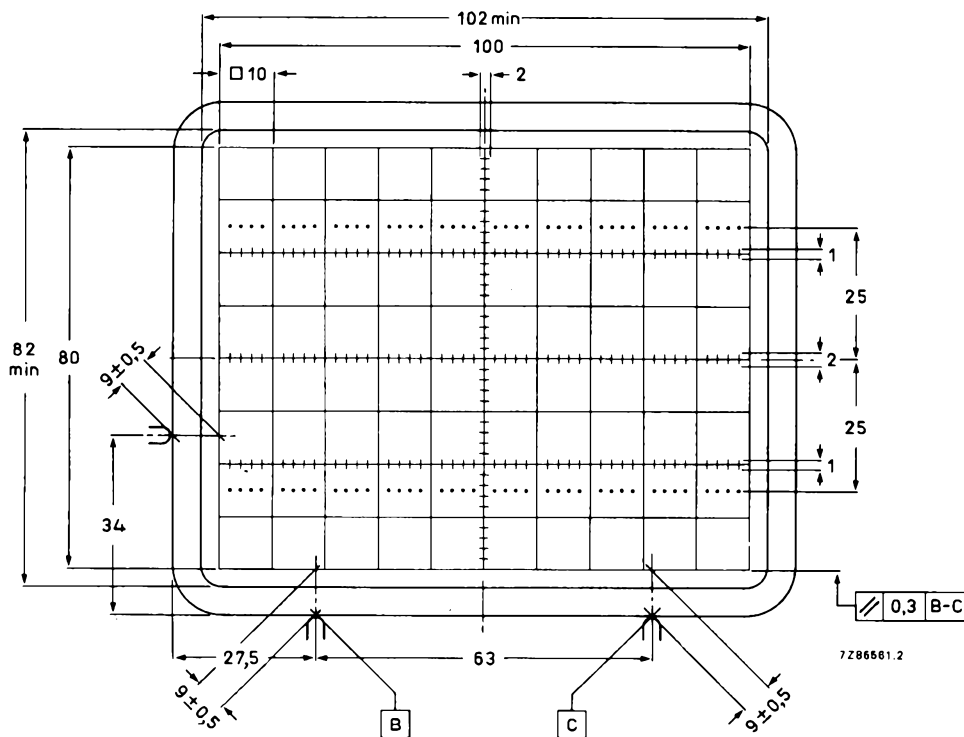

Fig. 5 Front view of tube with internal graticule, type 93. The faceplate reference points are used for aligning the graticule with the faceplate.
4. Reference points on faceplate for graticule alignment (see Fig. 5).